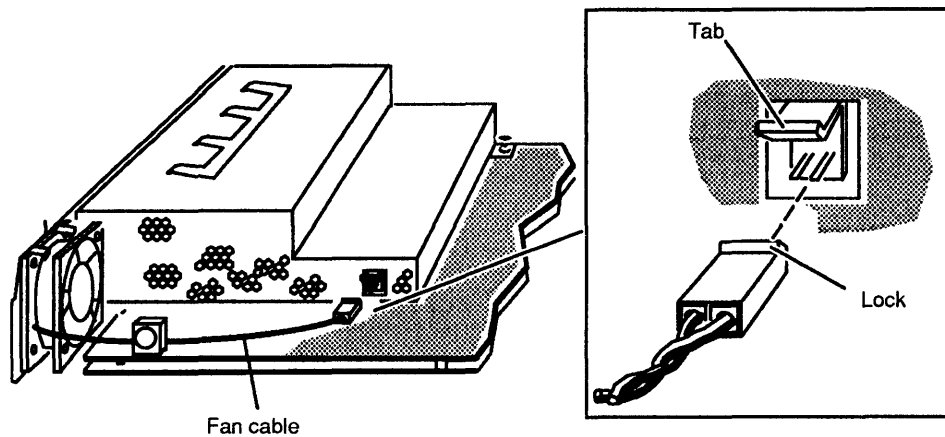

Figure 4-42 Disconnecting the Fan Cable
2. Disconnect the fan cable from the power supply by lifting the tab on the power supply and pulling out the fan cable, as shown in Figure 4-42.